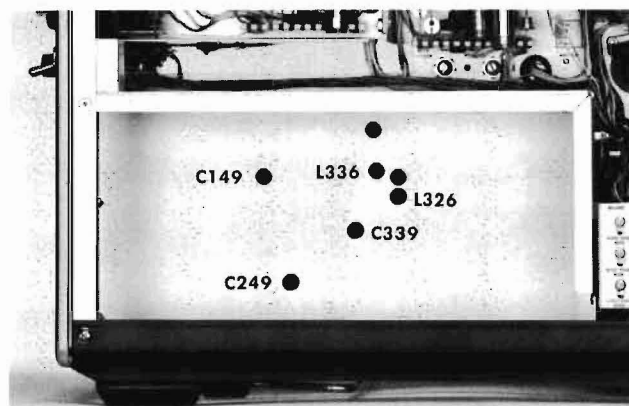

Fig. 5-2. Indicator unit access holes used to calibrate the Type 9A1.
g. Adjust C339 (See Fig. 5-2) for the flattest top on the square wave.
i. Adjust L326 and L336 (Fig. 5-2) for maximum peaking on the rising edge of the waveform. (It is important that L326 and L336 be adjusted just to the point where maximum peaking occurs; if they are adjusted too far in one direction, a dip will appear near the leading corner on the top of the waveform.)
- j. Adjust C145 and C149 (Fig. 5-2) for the squarest corner.
- s. Adjust C245 and C249 (Fig. 5-2) for a square leading corner on the waveform.